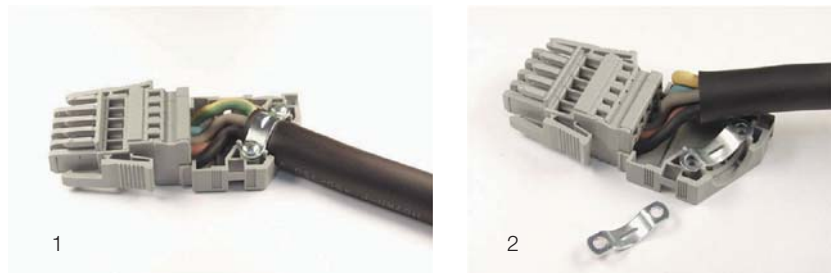

Fig. 31: Connection plug with strain relief housing
- Guide the conductors in the strain relief housing, as displayed in Fig. 31, and secure the sheathed flexible cable to the strain relief housing with a cable clamp.
To provide adequate strain relief for cables with a diameter of < 12 mm as well, it is necessary to install a second cable clamp underneath the cable (Fig. 31, item 2).